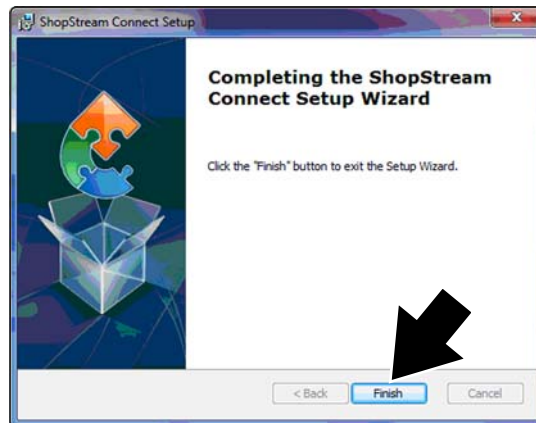

Figure 3-5 Typical Complete screen
- 6. Select **Finish**. (Figure 3-5).